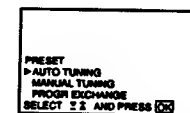

Fig. 7
- 2 Select "PRESET" with Δ+ or ▽- and press OK. (See Fig. 7.)